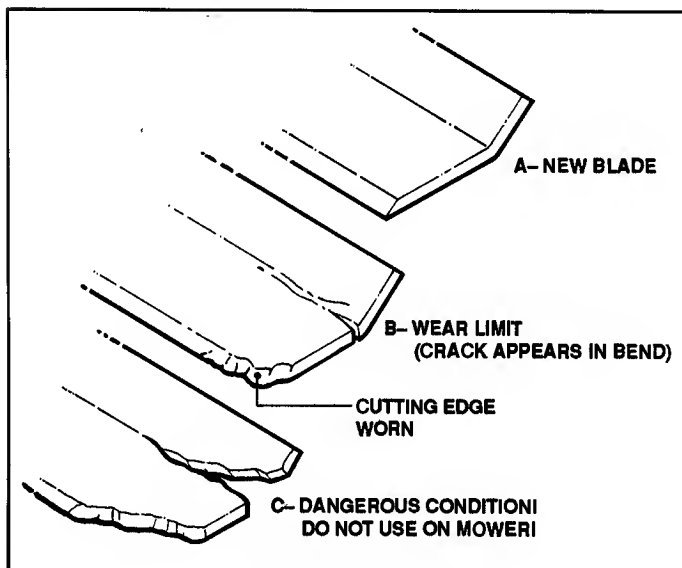

FIGURE 11.10
1. Check the blade(s) for obvious damage such as bends, large nicks or chunks resulting from hitting solid objects. **DO NOT** attempt to repair a damaged blade. Replace it with a new genuine SNAPPER blade. See Figure 11.10.